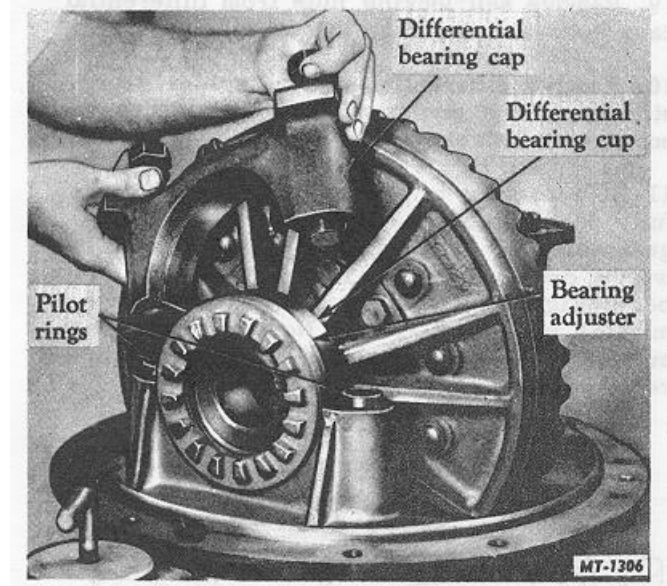

Fig. 1 Removing Differential Bearing Caps
7. Remove bearing cap bolts and take off the bearing caps and bearing adjusters (Fig. 1).